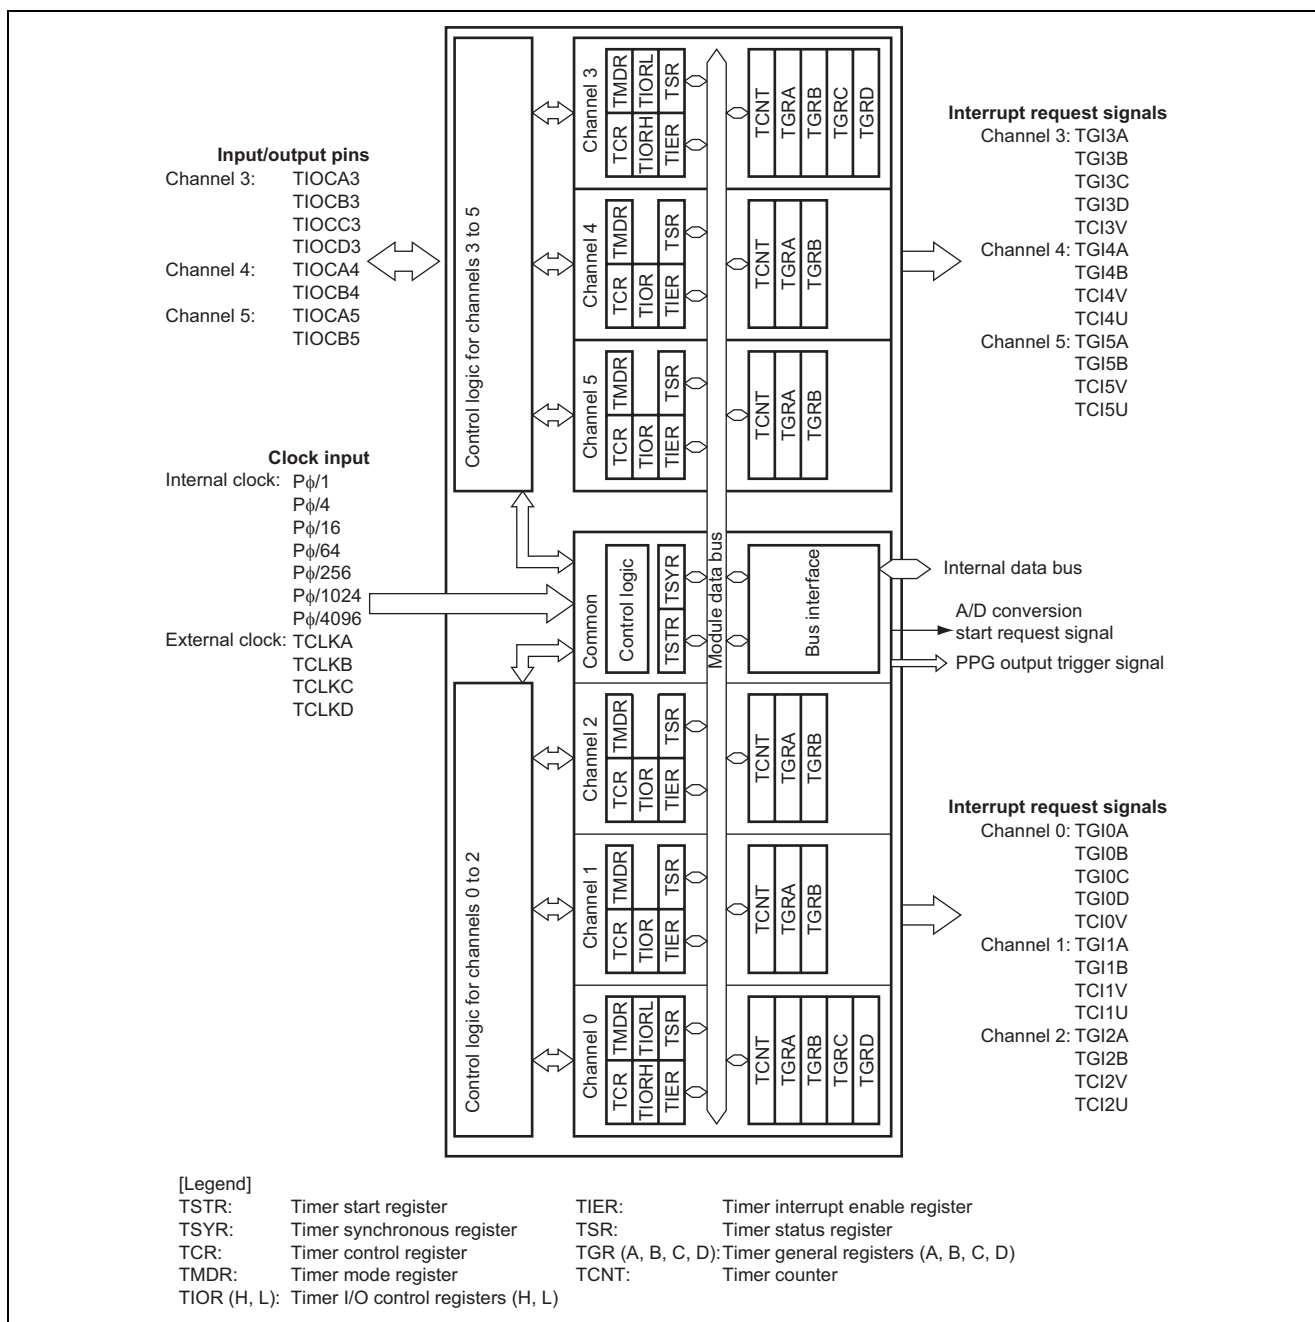

Figure 2 Block diagram of TPU
- Figure 2 is a block diagram of TPU.